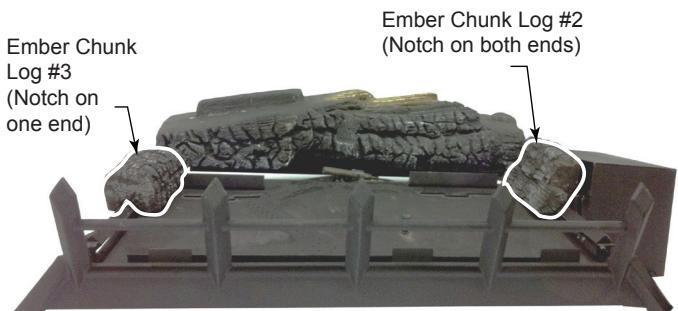

Figure 52
- Place the ember chunk (#2) with notch on both ends on the grate bar right side of the burner adjacent to the controls. Push towards rear as far as possible. Figure 52.
- Place the ember chunk (#3) with notch on one end on the grate bar left side of the burner with notch towards rear. Push towards rear as far as possible. Figure 52